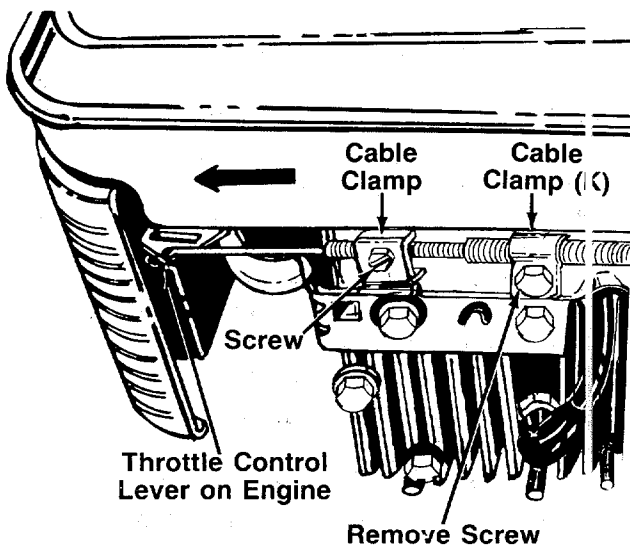

FIGURE 7.
11. Using a 7/16" wrench, remove the screw on the engine shown in figure 7.
12. Remove the screw on the cable clamp shown in figure 7. Slip the control casing under the clamp. Replace the screw, but do not tighten (cable must still move freely beneath the clamp).
13. Slide the throttle control lever on the engine as far toward the **outside** of the engine as it will go **easily** (just until resistance is felt) as shown in figure 7. (**Do not** force it into the extreme outside position, which is the CHOKE position). Tighten the screw to secure the throttle control cable in this position.
15. Secure cable casing to the front of engine with cable clamp (K) provided in hardware pack and screw removed from engine in step 11.